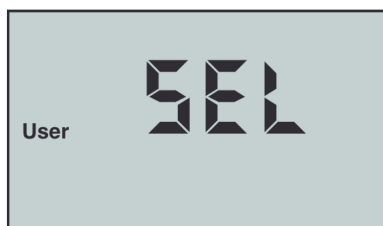

Figure 28
4. Press  key. The instrument will display “**SEL**” and the “**User**” Icon (see Figure 28).